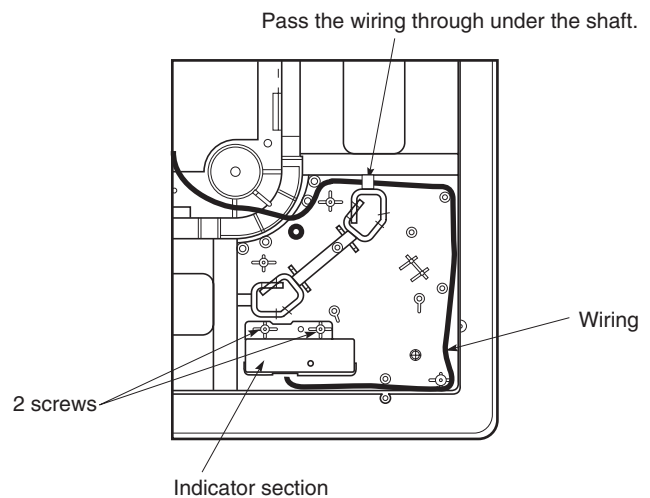

Fig. 1-212
- (4) Install the indicator section in the location where the mark section was attached. (2 screws)
- (5) Form the wire to match the panel ribs as shown in Fig. 1-212.
- (6) Install the corner cover. (Restrain the wire with the corner cover.)